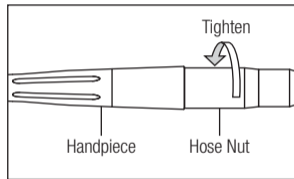

Fig. 4
- 1) Insert the handpiece correctly into the hose connector and tighten the hose nut.(Fig. 4)